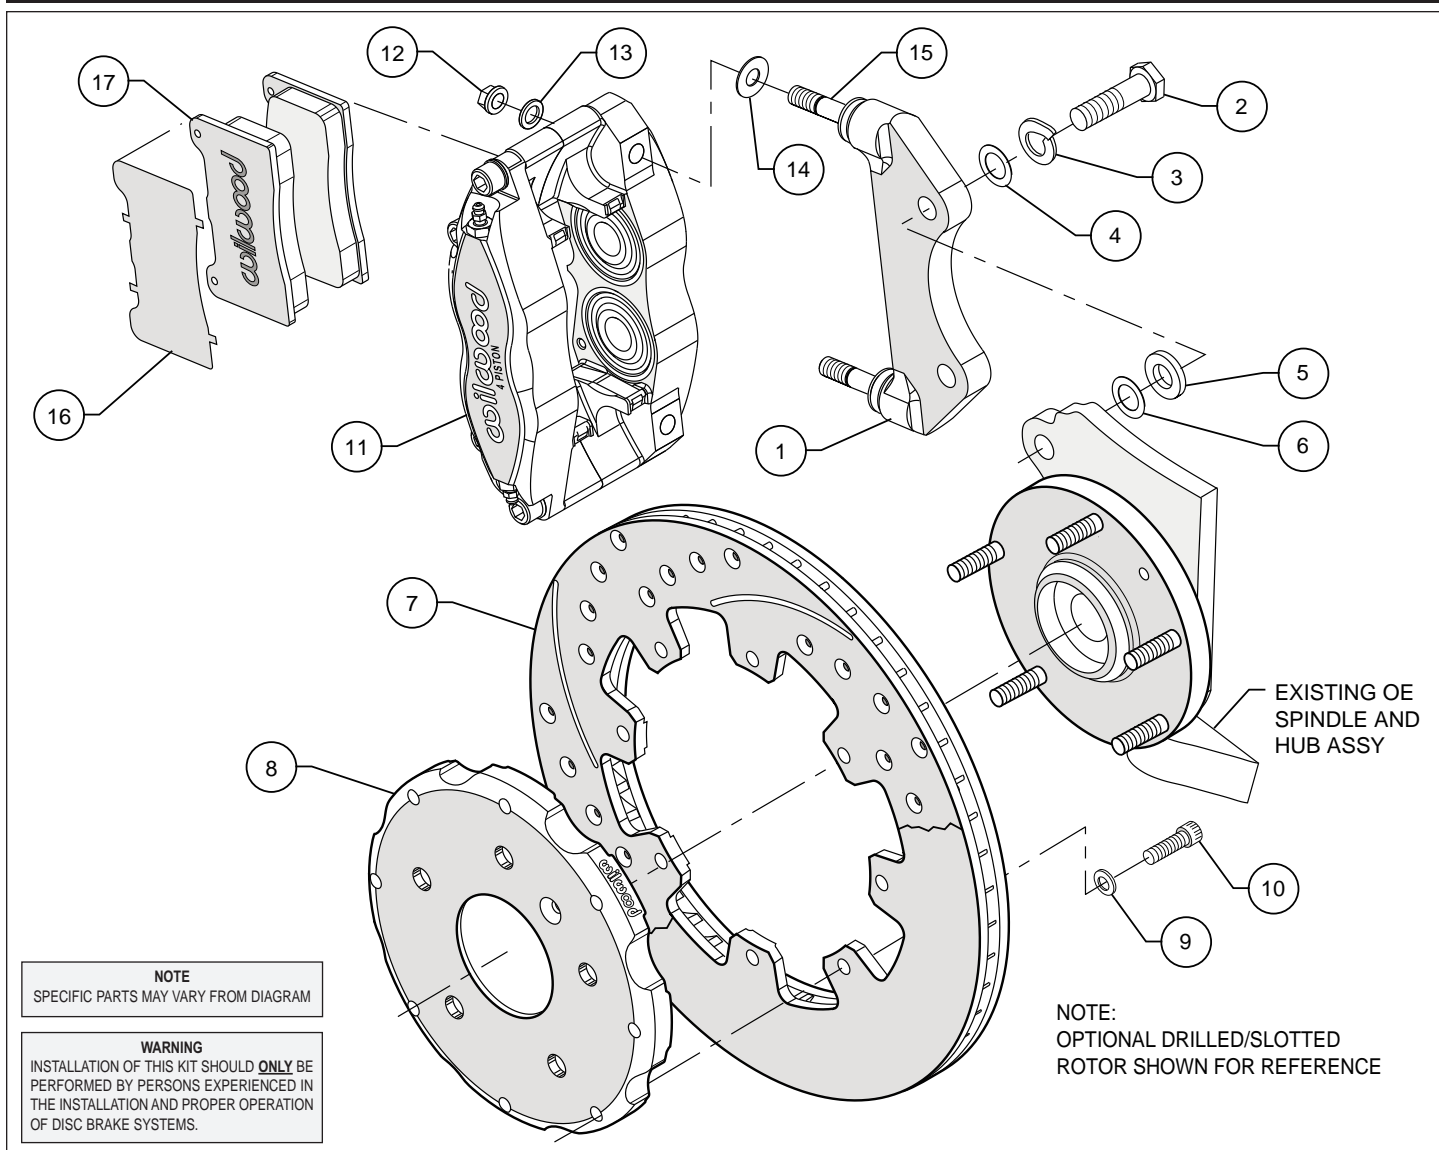

Figure 1. Typical Installation Configuration
- The caliper mounting bracket assembly (1) should be installed first with clean, dry threads on the mounting bolts. Install the bracket from the rear side of the spindle by sliding bolts (2) through lockwasher (3) and flatwasher (4). Place spacer (5), and washer (6) between the bracket (1) and the backside of the spindle (see Figure 1). The bracket must tighten squarely against the side of the spindle body. Inspect for interference from casting irregularities, machining ridges, burrs, etc. Use one thin shim (6) between the spacer and spindle during initial trial fitting.